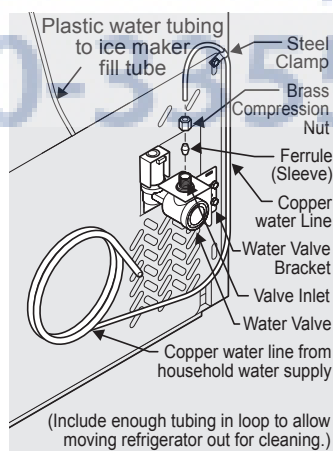

Figure 1
4. **If you use copper tubing** - Slide brass compression nut, then ferrule (sleeve) onto water supply line. Push water supply line into water valve inlet as far as it will go (1/4 inch/6 mm). Slide ferrule (sleeve) into valve inlet and finger tighten compression nut onto valve. Tighten another half turn with a wrench; DO NOT overtighten. See Figure 1.